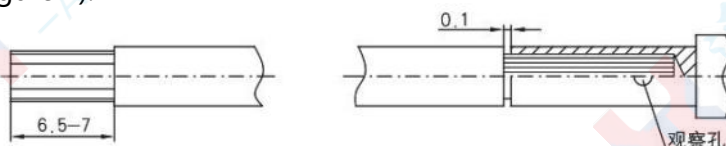

Figure 4
a. Prepare the components to be crimped: Select the compatible wire matching the contact size specified in Table 2, strip the insulation to a length of 6.5–7.0 mm, insert the stripped wire core into the crimp barrel of the contact, and ensure the wire core extends beyond the inspection hole on the crimp barrel (see Figure 4).